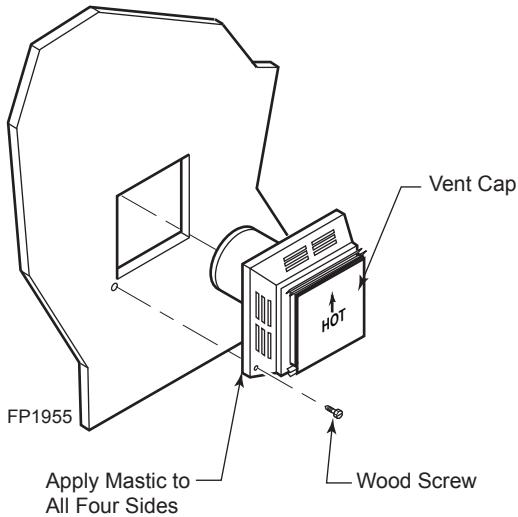

Figure 12 -
4. Apply a bead of non-hardening mastic around the outside edge of vent cap. Position the vent cap in the center of the 7 1/2" (190 mm) or 9 1/2" (241 mm) hole on the exterior wall with the word "UP" on the vent cap facing up. Insure proper clearance of 1" to combustibles is maintained. Attach the vent cap with four wood screws supplied. *Figure 12.*